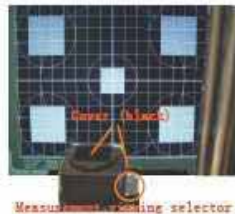

Fig. 2
- Set measuring/viewing selector to measuring position for reset analyzer (.zero calibration) as Fig.2